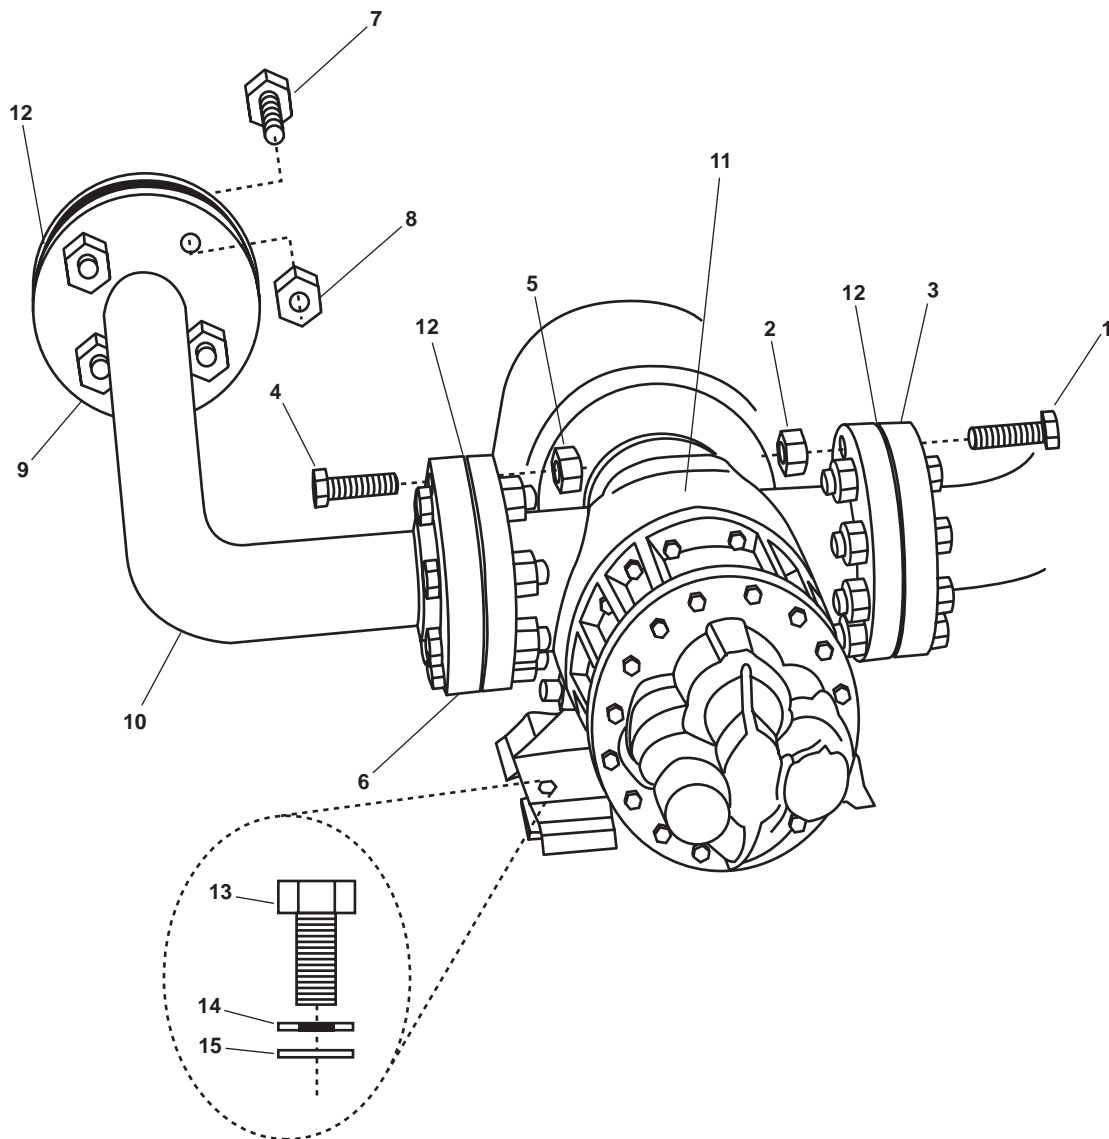
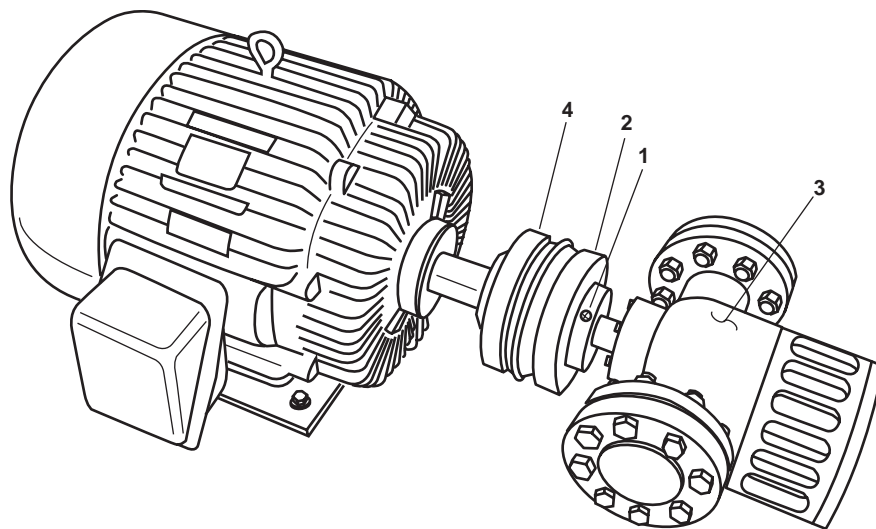
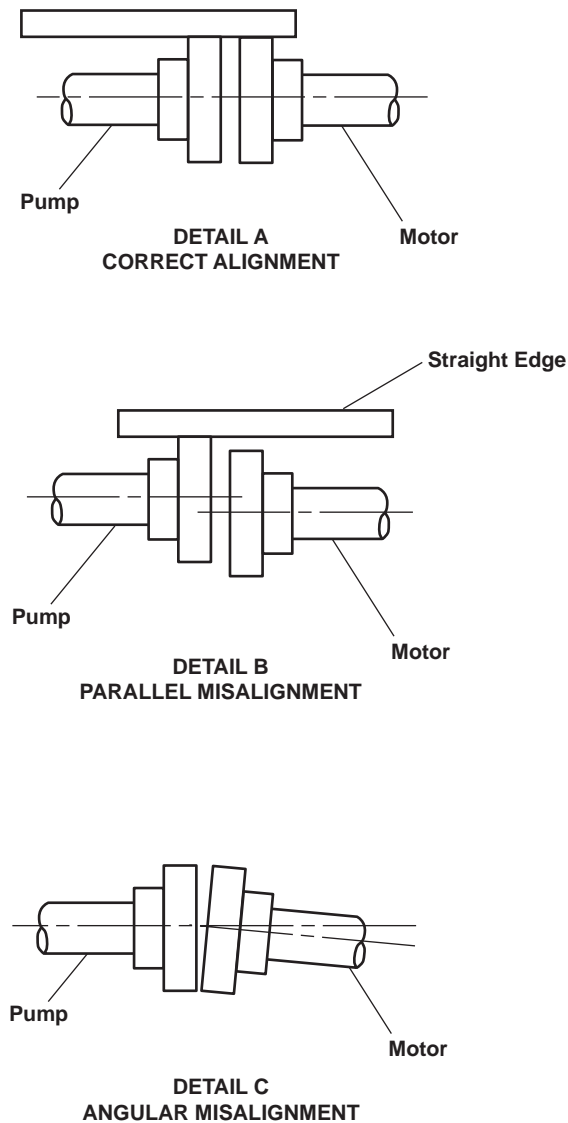

Figure 1. AFFF Pump Piping
Figure 3. AFFF Pump Coupling Detail
Figure 4. AFFF Pump and Motor Coupling Alignment Detail
1. Remove the eight bolts (figure 1, item 1) and eight nuts (figure 1, item 2) from the discharge piping flange (figure 1, item 3).
2. Remove the eight bolts (figure 1, item 4) and eight nuts (figure 1, item 5) from the inlet piping flange (figure 1, item 6).
3. Remove the four bolts (figure 1, item 7) and four nuts (figure 1, item 8) from the strainer flange (figure 1, item 9).
4. Remove the inlet piping (figure 1, item 10) from the AFFF pump (figure 1, item 11).
5. Remove and discard the three gaskets (figure 1, item 12).
8. Loosen the pump coupling setscrew (figure 3, item 1), and slide the pump coupling (figure 3, item 2) towards the AFFF pump (figure 3, item 3).
9. Remove the four bolts (figure 1, item 13), four lockwashers (figure 1, item 14), and four flat washers (figure 1, item 15) that secure the AFFF pump (figure 1, item 11) to its foundation. Discard the lockwashers.
10. Use an endless sling and chain hoist to lift the AFFF pump (figure 1, item 11) and remove it from its foundation.
1. Thoroughly clean all old gasket material from the three flanges (figure 1, items 3, 6, and 9).
2. Use an endless sling and chain hoist to position the AFFF pump (figure 1, item 11) onto its foundation.
3. Loosely install the four bolts (figure 1, item 13), four new lockwashers (figure 1, item 14), and four flat washers (figure 1, item 15) that secure the AFFF pump (figure 1, item 11) to its foundation.
Correct alignment of the pump coupling and motor coupling is shown in detail A of figure 3. Parallel misalignment and angular misalignment are depicted for reference only in details B and C, respectively.
4. Align the pump coupling (figure 3, item 2) to the motor coupling (figure 3, item 4) ensuring proper parallel and angular alignment as shown in figure 4.
5. Once the pump coupling (figure 3, item 2) and the motor coupling (figure 3, item 4) are correctly aligned per detail A of figure 4, tighten the pump coupling setscrew (figure 3, item 1), and tighten the pump mounting bolts (figure 1, item 13).
8. Position the inlet piping (figure 1, item 10) and new gaskets (figure 1, item 12) into place.
9. Loosely secure with the four bolts (figure 1, item 7), four nuts (figure 1, item 8), eight bolts (figure 1, item 4), and eight nuts (figure 1, item 5).
10. Verify that the flanges are aligned, and tighten the eight bolts (figure 1, item 4) and four bolts (figure 1, item 7).
11. Position the discharge flange (figure 1, item 3) to the pump (figure 1, item 11) using a new gasket (figure 1, item 12), and loosely secure with the eight bolts (figure 1, item 1) and eight nuts (figure 1, item 2).
12. Tighten the eight bolts (figure 1, item 1).